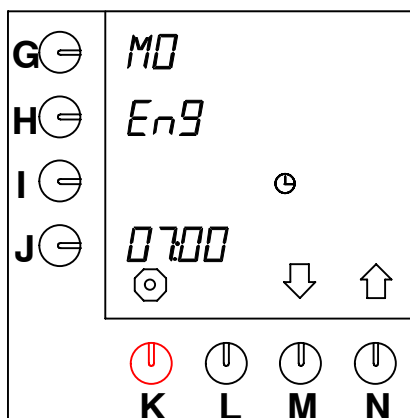

Fig. 41 Language setting
- After 10 seconds the default setting "EnG" appears flashing beside the programming key (fig. 41 ).